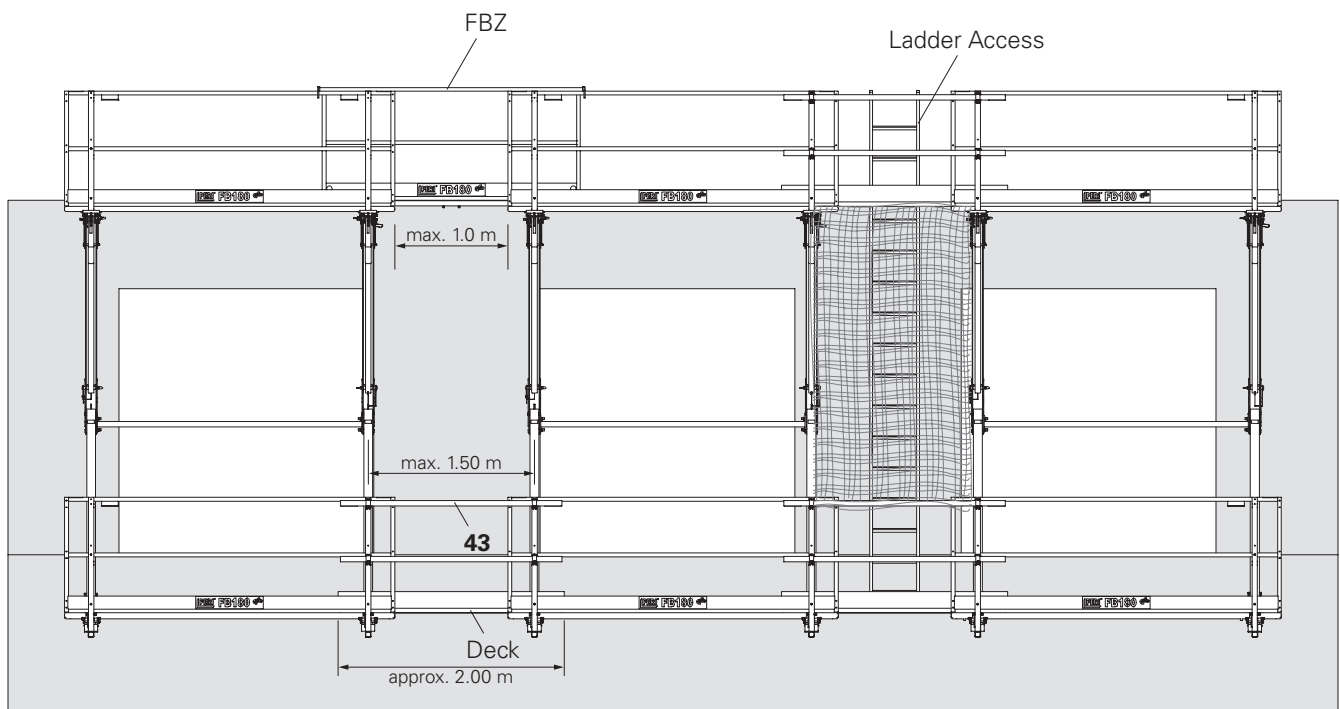

Fig. B6.02
- Supplement the lateral protection with scaffold tubes (43) or handrail boards on site. (Fig. B6.02)